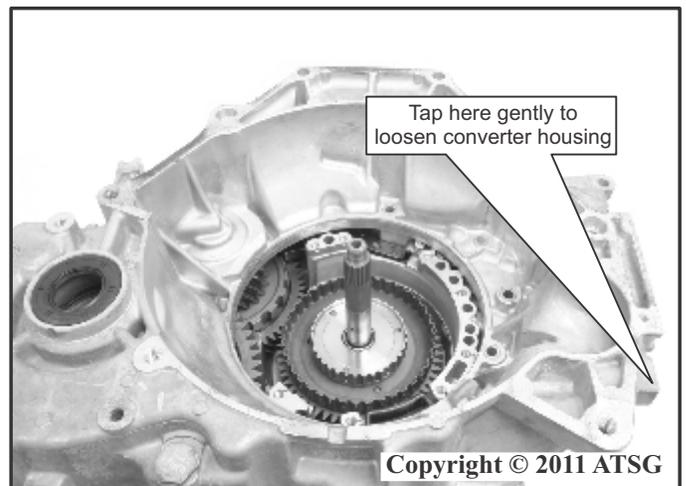

Figure 33
34. Using a soft faced hammer or plastic mallet gently tap and loosen the converter housing as shown in Figure 33.